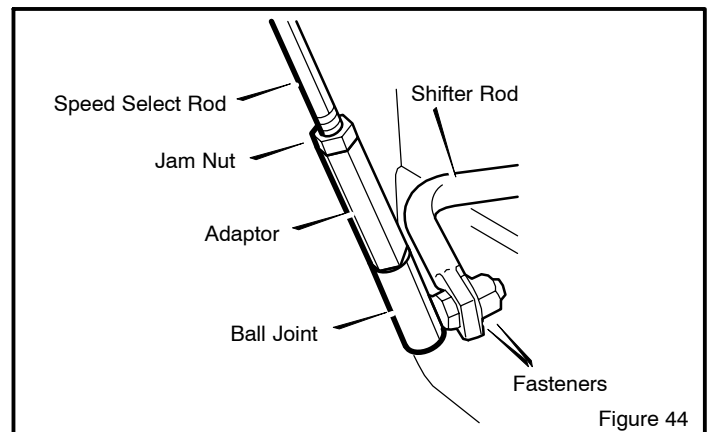

Figure 44
2. Loosen hex **jam nut** on **speed select rod**. Remove **ball joint** from **shifter rod** (see Figure 44).
4. Turn the **adaptor** until the **ball joint** is aligned with the mounting hole in the **shifter rod** (see Figure 44). When aligned, attach the **ball joint** to the **shifter rod**.